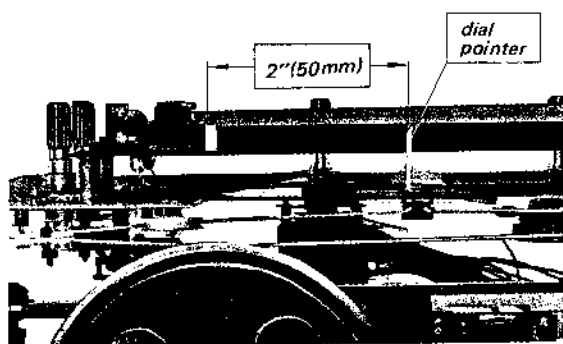

Fig. 2-6 Dial pointer position at minimum capacitance position
11. Put the dial-pointer on the cord, and move it two-inches (50mm) away from the right end of the dial-scale back-plate at the minimum capacitance position of the tuning capacitor, as shown in Fig. 2-6.